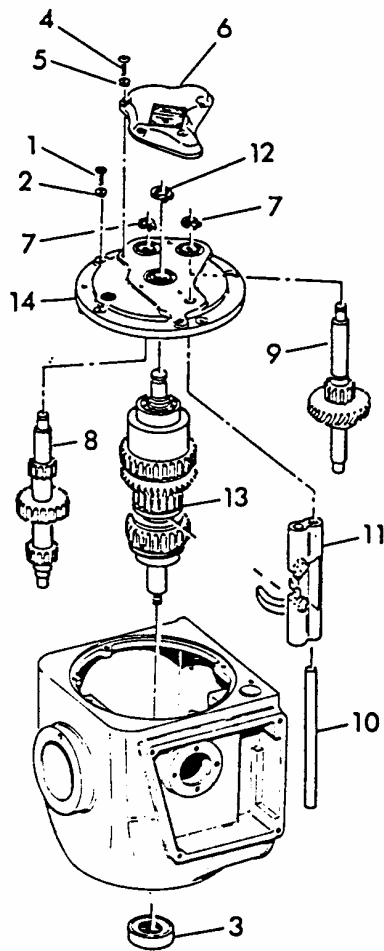

FIGURE 4
- A. REMOVE COVER SCREWS (1, FIGURE 4) AND WASHERS (2).
- C. USING A PIPE AND Mallet, DRIVE OIL SEAL (3, FIGURE 4) OUT OF BOTTOM OF TRANSMISSION HOUSING. WHEN INSTALLING NEW SEAL, COAT OUTER EDGE OF SEAL AND PRESS INTO HOUSING WITH METAL SIDE OF SEAL TOWARD MIXING BOWL (DOWN).
- D. REMOVE SCREWS (4), WASHERS (5) AND COVER (6). REMOVE SNAP RINGS (7) AND PULL INTERMEDIATE (8) AND PINION SHAFT (9) ASSEMBLIES TOGETHER, FROM COVER.
- E. PULL ROD (10) OUT OF COVER TO REMOVE SHIFTER YOKE (11).
- F. REMOVE SNAP RING (12). WITH A CENTER PUNCH, TAP SUN SHAFT ASSEMBLY (13) OUT OF COVER (14).